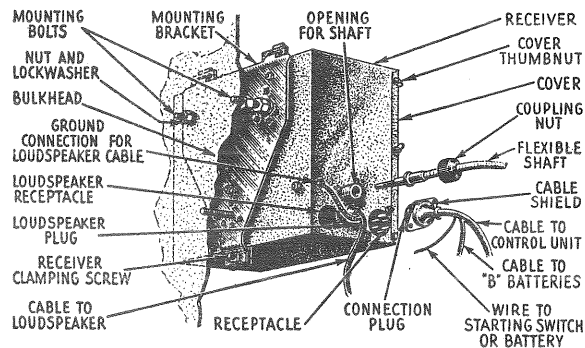

Figure 9—Details of Receiver Mounting
**Mounting** Using the card inside of the Receiver Carton as a template, determine the proper location on the bulkhead and mark the location of the three holes with a center punch. A space at least four inches high must be left above the receiver. Extra holes are provided in the bracket to be used in case the regular holes are not satisfactory. If the bulkhead is curved, the template must be used flat and not follow the contour of the curved surface. In some cases, the receiver unit bracket must be mounted away from the bulkhead to clear obstructions. The center punch must be held perpendicular to the template when marking the holes to insure proper alignment. Next drill three  $\frac{7}{16}$  inch holes as marked. Then attach the bracket to the bulkhead by means of nuts and lockwashers furnished as shown in Figure 9.
**Loudspeaker to Receiver** Insert the plug on the end of the loudspeaker cable into the two-contact receptacle on the end of the receiver. Fasten the pigtail under the self-tapping screw as shown in Figure 9.